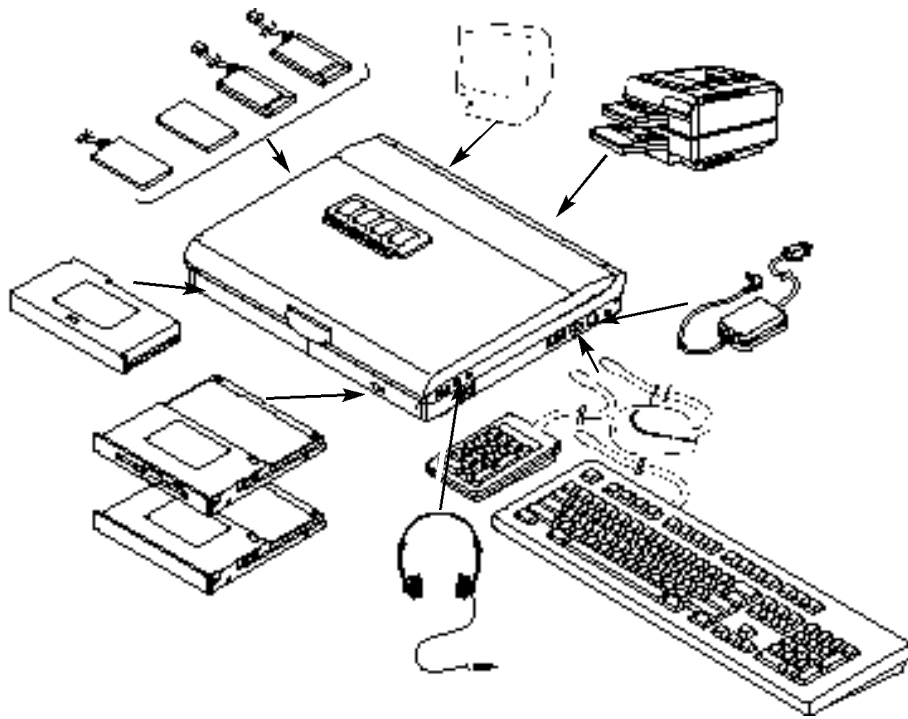

Figure P-1 LifeBook 400 Series
**Your LifeBook 400 Series is a completely self-contained unit with a passive-matrix (DSTN) color LCD display. It has a powerful interface that enables it to support a variety of optional features. (Figure P-1.)**